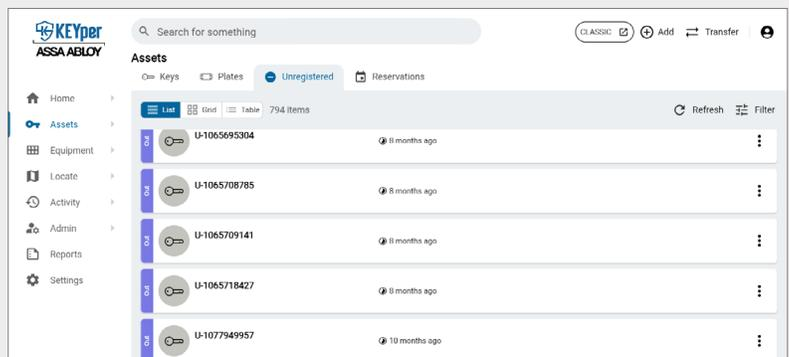

Fig. 60 – Select an unregistered asset
3. Choose an **unregistered asset** from the list to navigate to the **Asset Overview** screen, as shown in Fig. 60.